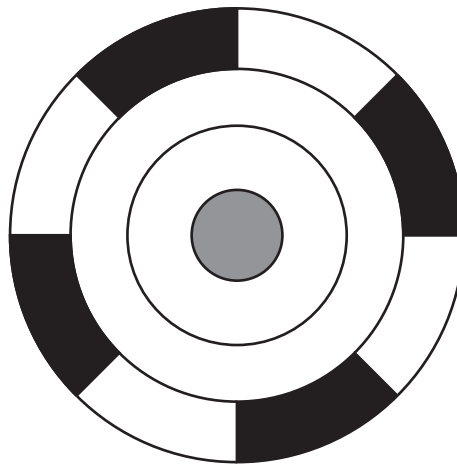

Figure Q5(a)
5. Figure Q5(a) illustrates a partially completed **pure/natural binary coded disc** for use in an optical rotary absolute encoder.